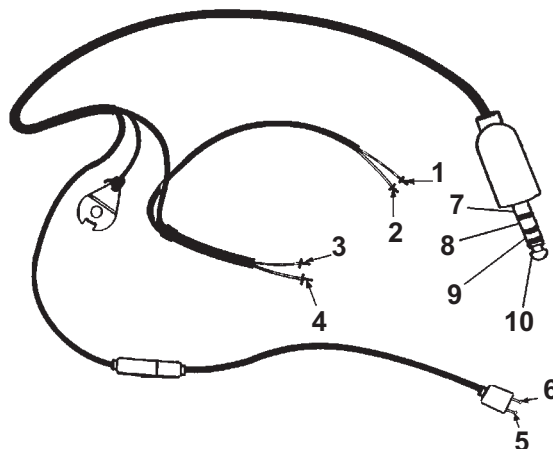

Figure 4-2. Test Points for Test 2
Step 4. Using a multimeter, refer to Figure 4-2 and perform Test 2 in accordance with the chart below.